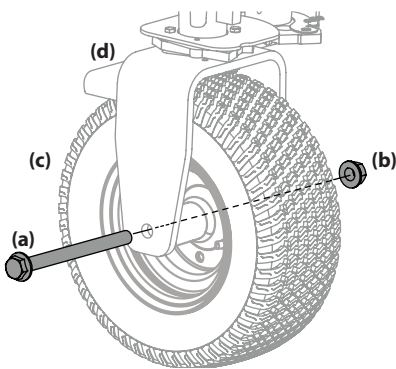

Figure 4-15
1. Remove the hex screw (a) and flange lock nut (b) that secures the front wheel (c) to the yoke assembly (d). See Figure 4-15.
2. To re-install or replace the front tire, reverse Step 1. Tighten the hardware to 75-90 ft-lbs. See Figure 4-15.